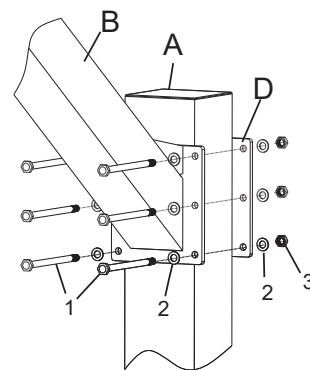

FIGURE 5
- B. Connect Main Extension Arm (B) to Main Post (A) with one Extension Arm Plate (D), using six 5/8" Hex Bolts (1), twelve 5/8" Flat Washer (2), six Lock nuts (3). See Figure 5